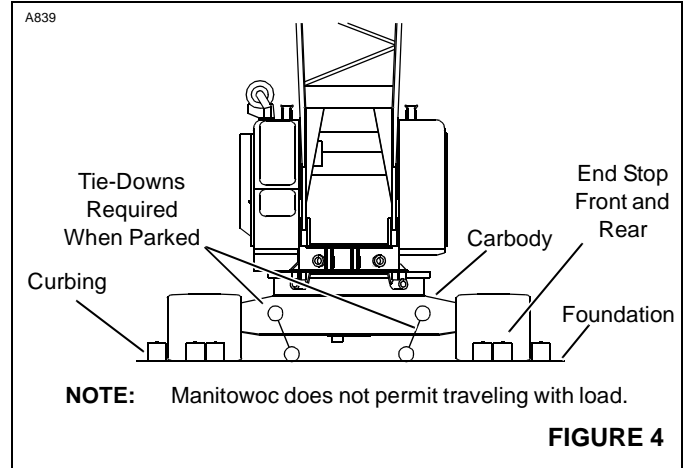

FIGURE 4
2. Crawler-mounted crane working on timbered area of barge, ship or floating platform with crawlers restrained by curbing and end stops (Figure 4). When not working, crane carbody is anchored with tie-downs to foundation. **Traveling with load is not permitted.**